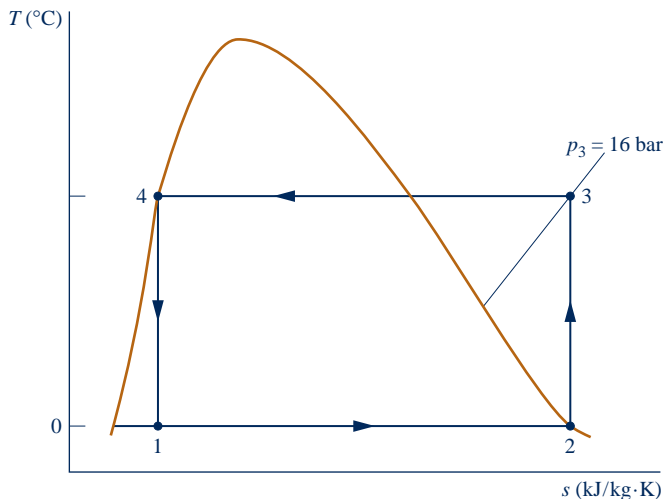

Fig. P6.30
6.30 Figure P6.30 provides the T - s diagram of a Carnot refrigeration cycle for which the substance is Refrigerant 134a. Determine the coefficient of performance.